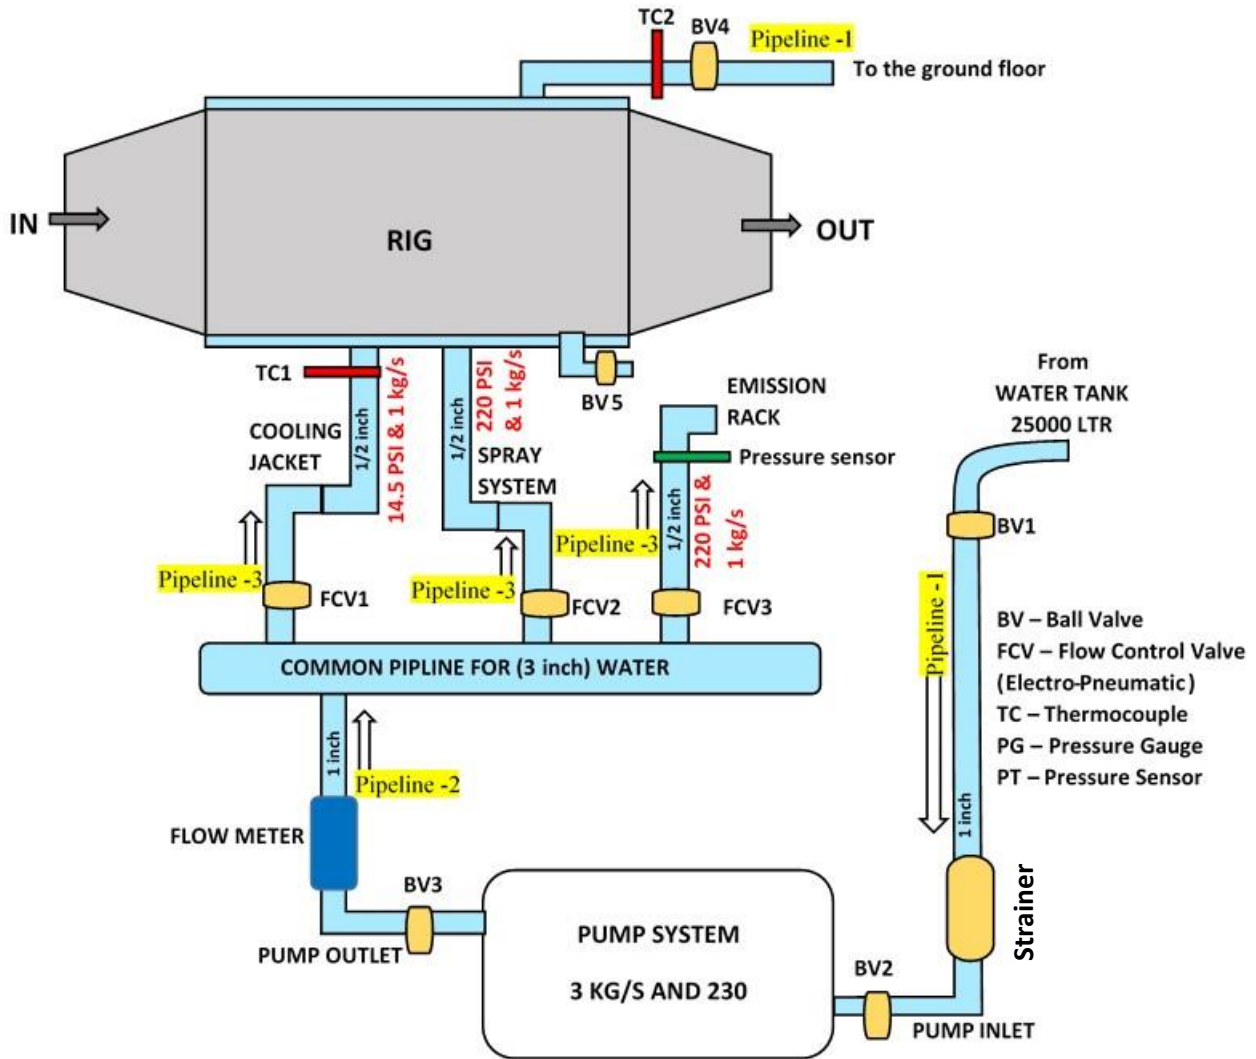

Figure 3. Water Flow System P&ID
- 8) There is a ball valve at the bottom of the rig to drain the condensed water (BV5) in Fig. 3.
- 11) At the cooling jacket, we need to measure at inlet and outlet of the water (TC1 and TC2 in Fig.3)